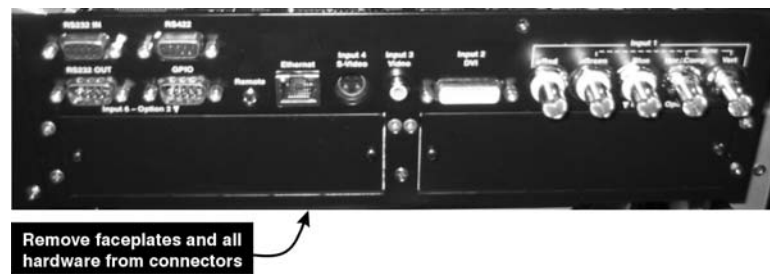

Figure 69. Projector Input Panel
2. Remove the faceplates from optional inputs. (Figure 69.)
4. Remove four (4) screws from the input panel used to secure the card guides.